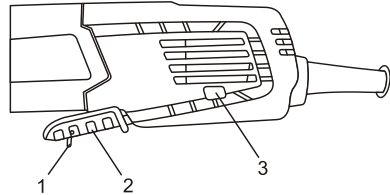

Fig. 6
1. To turn the switch ON, pull the lock-off toggle (1) back and then squeeze the switch lever (2). (Fig. 6). To turn the switch OFF, release the switch lever.
2. To activate the lock-on switch while the angle grinder is running, press the lock-on button (3). While holding the lock-on button inward, release the ON/OFF switch. The angle grinder will continue to run.